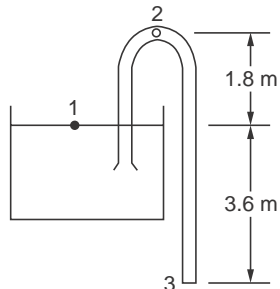

Figure E. 6.17
- E 6.17.** Determine the flow rate and also the pressure at point 2 in the siphon shown in Fig. E. 6.17. Diameter of the pipe is 2.5 cm. **(4.2 l/s, 45.1 kPa ab)**